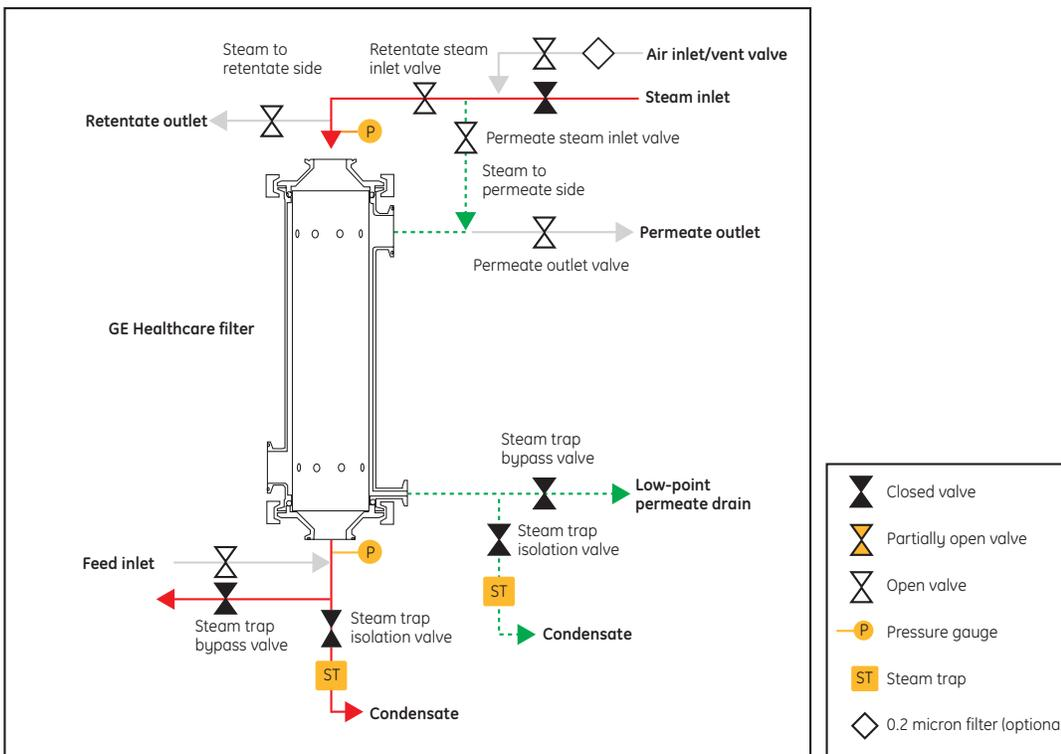

Figure 9. Starting setup for Stage 3—cool and pressurize
1. Close the steam inlet valve (Fig 9).
- Figure 9. Starting setup for Stage 3—cool and pressurize, 19